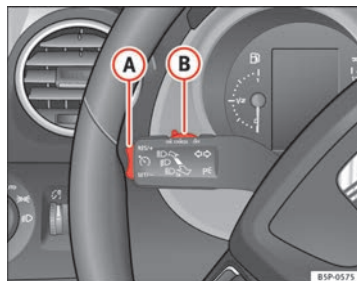

Fig. 153 Turn signal and main beam headlight lever; switch and rocker switch for the cruise control
- Press the lower part **SET/-** of the rocker switch ⇒ Fig. 153 **A** once briefly when you have reached the speed you wish to set.